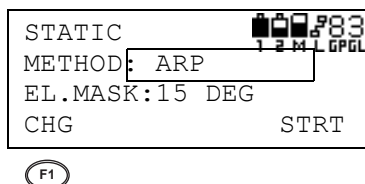

Figure 3-25. Enter Measuring Method
- Use the **up/down cursor key** to scroll down to the antenna height measuring method. Press **F1** (CHG) and select either antenna reference point (ARP) or slant using the left/right cursor keys (Figure 3-25).